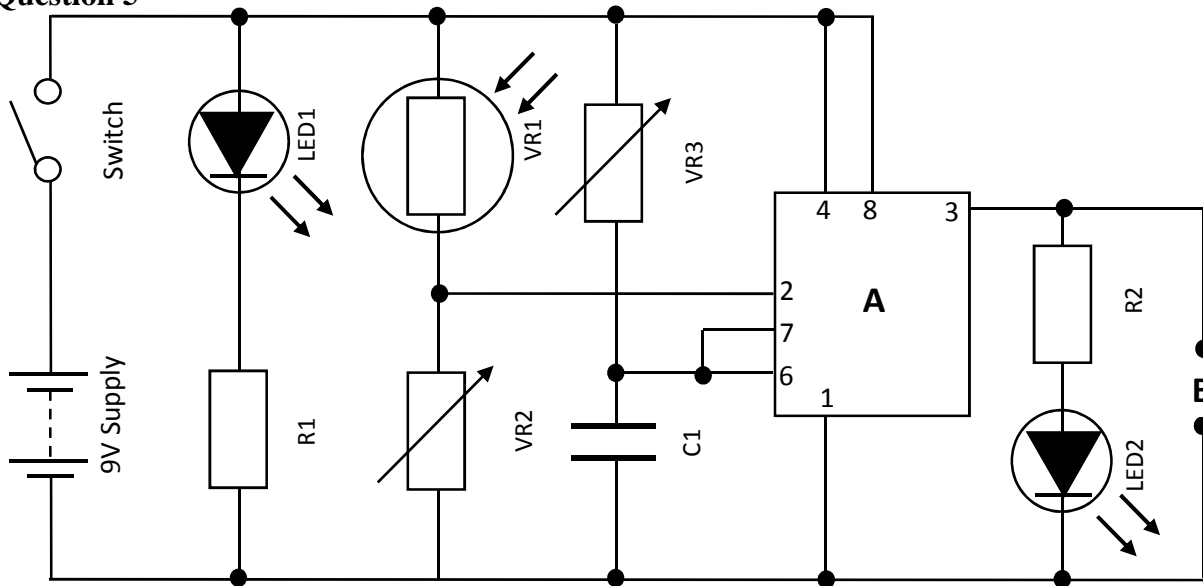

Figure 3
a. Figure 3 shows the schematic diagram for an intruder alarm.
d. i. Calculate the value for resistor R1 when a current of 20mA flows through LED1 in Figure 3. The voltage for LED1 is 2V and the voltage for the circuit's supply is 9V. Show all working in the space provided below.
ii. Name a switch that can be used for the circuit in Figure 3.